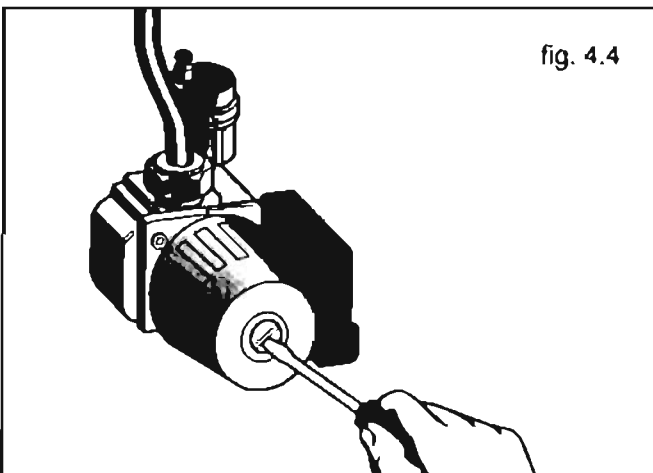

fig. 4.4
- 7 Purge the air from the pump by unscrewing the pump plug indicated as indicated in fig. 4.4; release the pump by turning the rotor in the direction indicated by the arrow on the information plate;